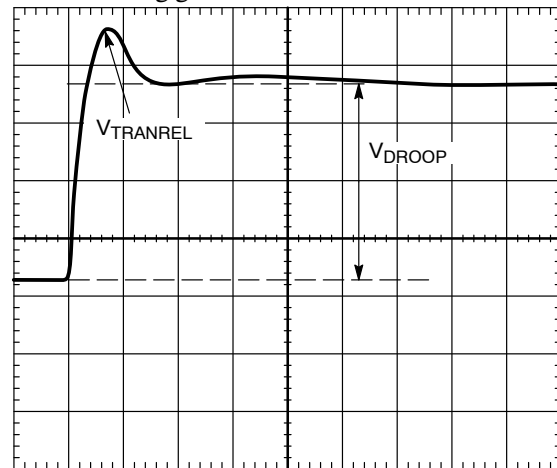

Figure 34. Transient Setting Waveform, Load Release
21. For load release (see Figure 34), if $V_{TRANREL}$ is larger than the IMVP-6 specification, there is not enough output capacitance. Either more capacitance is needed or the inductor values need to be smaller. If the inductors are changed, then start the design over using Equations 1 to 38 and this tuning guide.